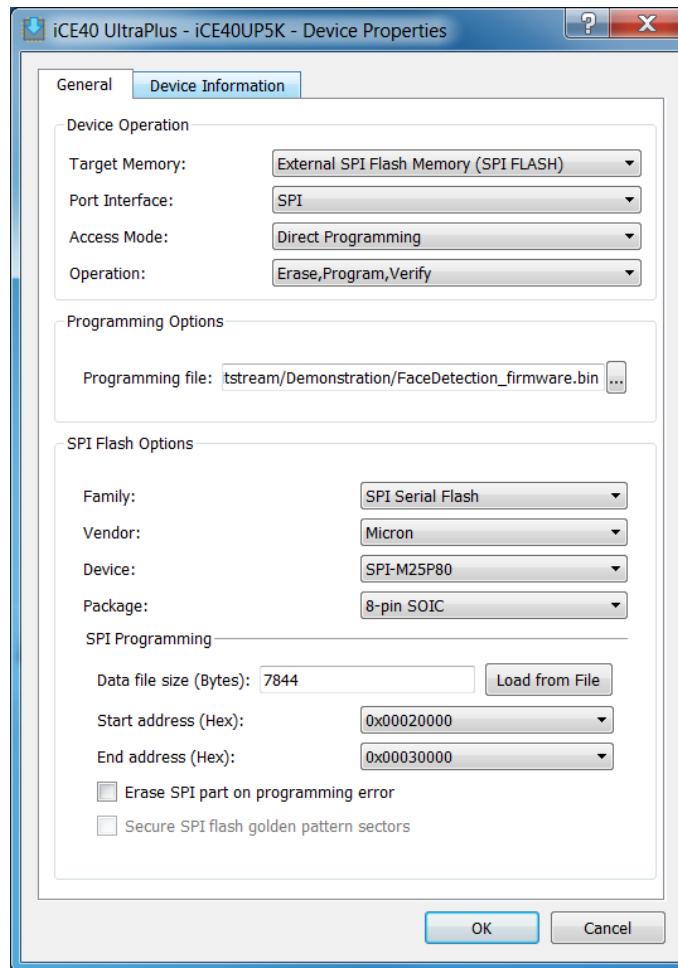

Figure 4.3. Binary Firmware File Settings
8. To program the binary firmware file, select the options below as shown in Figure 4.3.